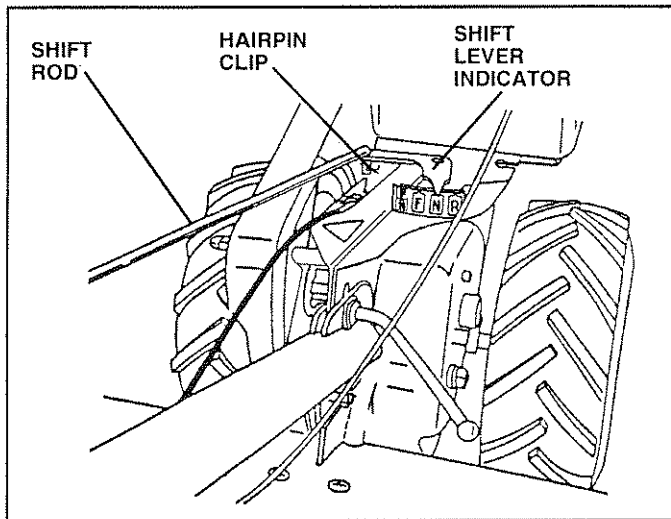

FIG. 6
## CONNECT SHIFT ROD (See Fig. 6)
- Make sure shift lever indicator is in "N" position (See Fig. 6)